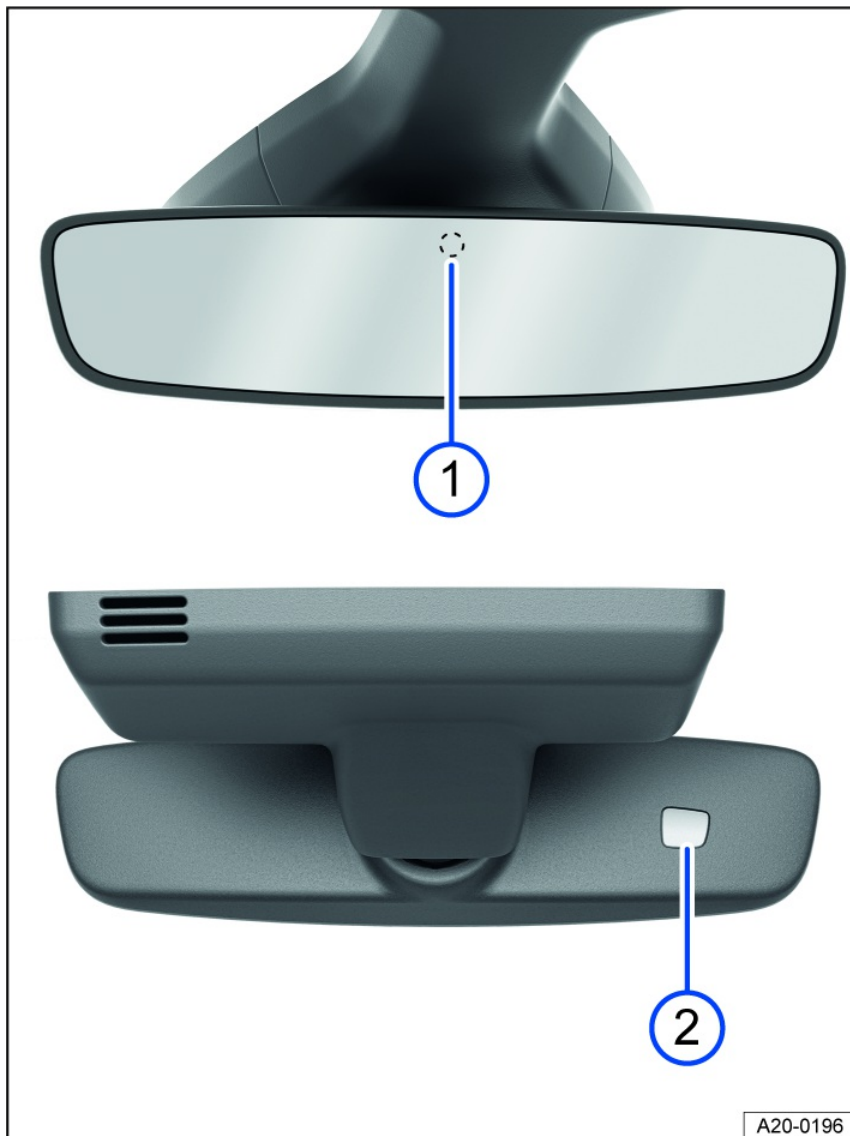

Fig. 78 On the windshield: automatic dimming interior rearview mirror.
When the ignition is on, the sensors measure the amount of light entering from the rear fig. 78 ① and from the front ②.